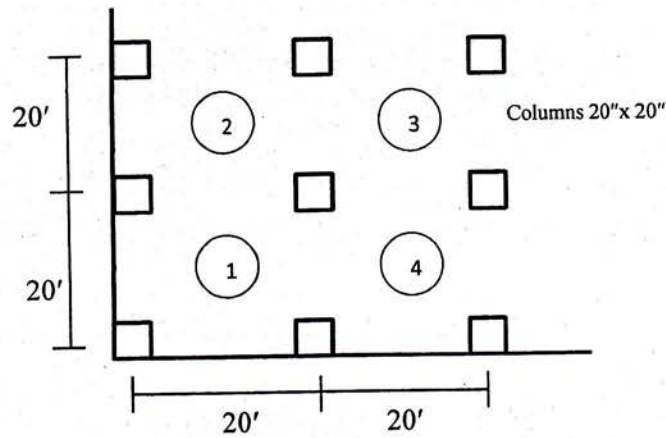

Figure 2
- (b) Using Direct Design Method, determine the minimum thickness required, corresponding moments and slab reinforcement in any one direction for panel 3 of the flat plate floor shown in **Figure 2**. Edge beams are not used along the exterior floor edges. Assume that the floor system is to support service live load of 80 psf and dead load of 60 psf in addition to its own weight. 17